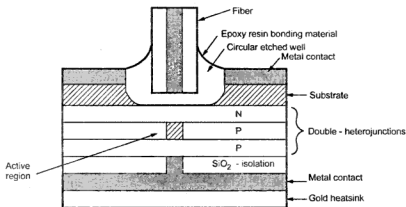

Fig. 3.1.2 Cross-section through a typical surface emitting LED
- In surface emitting LEDs the plane of active light emitting region is oriented perpendicularly to the axis of the fiber. A DH diode is grown on an N-type substrate at the top of the diode as shown in Fig. 3.1.2. A circular well is etched through the substrate of the device. A fiber is then connected to accept the emitted light.